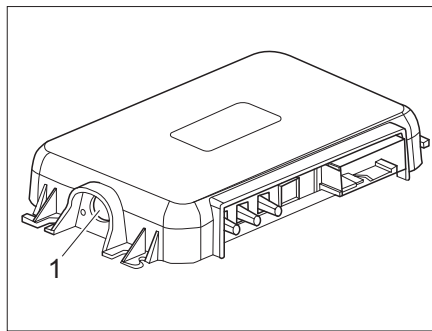

Fig. 278 Coupling button on the SCU
- Press on the SCU coupling button (Fig. 278,1). Your vehicle and mobile device are now paired.